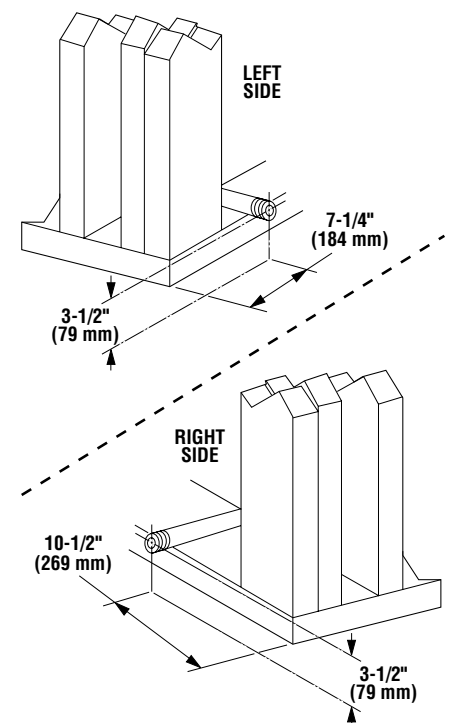

Figure 8
Step 2. Route Gas Supply Line - Route gas line (**Figure 8**) using techniques and materials prescribed by local and/or national codes. It is recommended that a gas line of 1/2" or greater diameter be used to allow full gas volume to the fireplace. Undue pressure loss will occur if the pipe is too small. The appliance, as set up at the factory, is best suited for use with a gas line routed from the left side. The gas line may however be alternately routed from the right side.